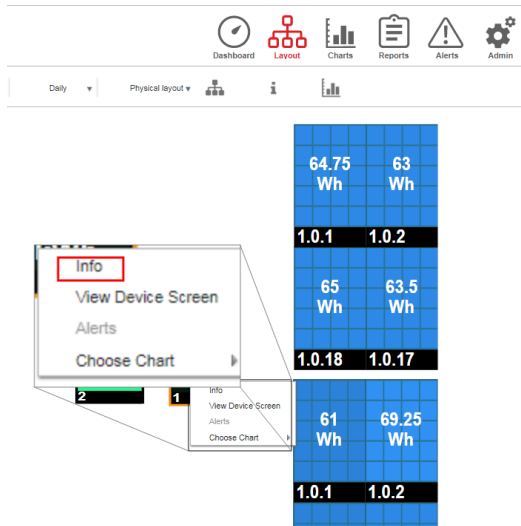

Figure 23: Inverter menu
2. Right-click the inverter and select **Info** from the menu (*Figure 23*). The inverter details window is displayed (*Figure 24*).